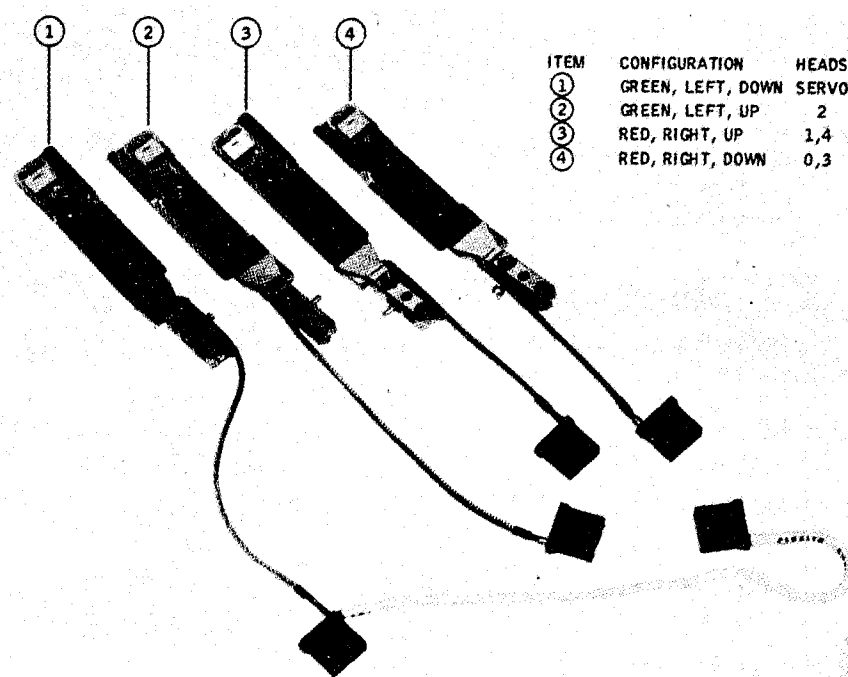

Figure 3-16. Read/Write Heads
3.8.7 CLEANING THE READ/WRITE HEAD (Figure 3-16)